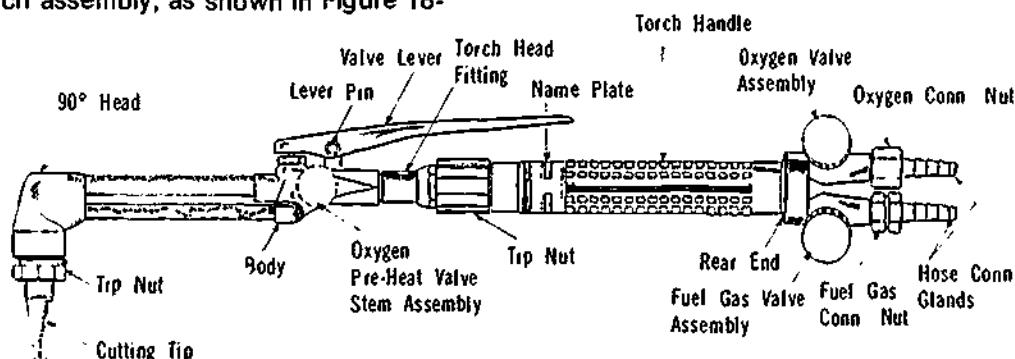

Figure 18-21. Components of Cutting-Torch Handle
- b) To prepare the welding torch for flame-cutting, remove the tip and the tip nut and replace them with the cutting torch assembly, as shown in Figure 18-21.